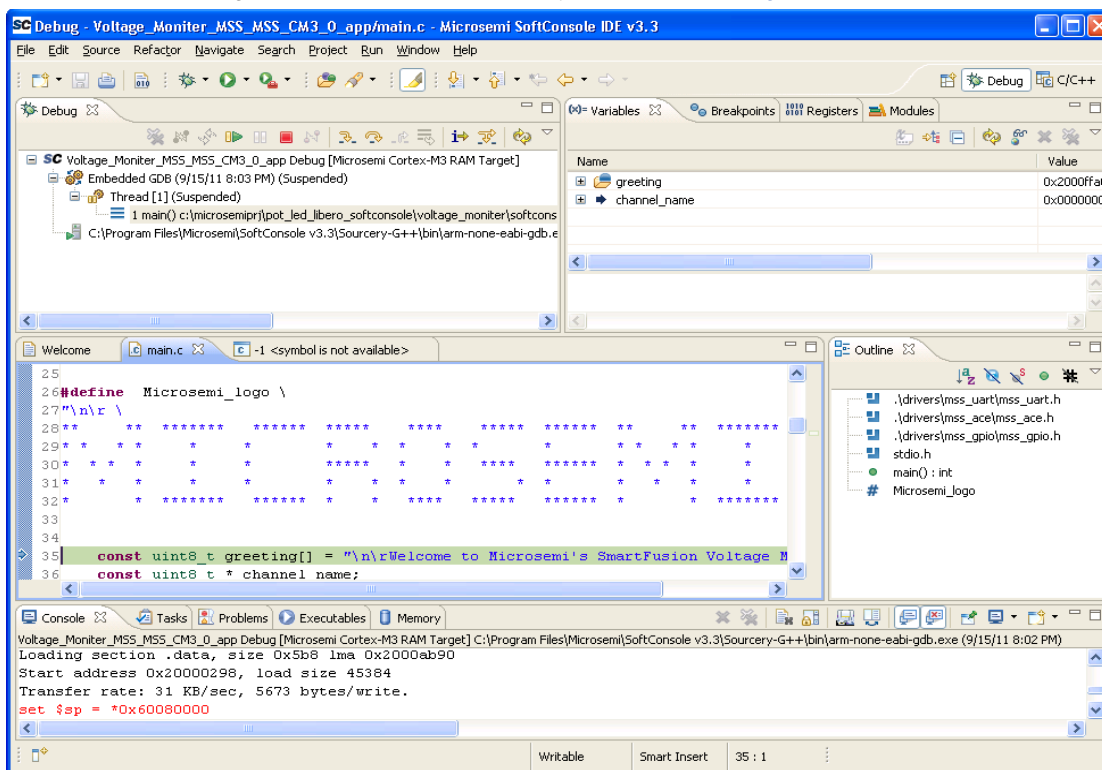

Figure 35 Debug Perspective
7. The Debug Prospective window is displayed, as shown in Figure 35.